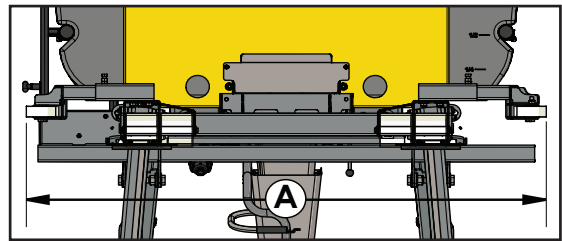

Figure 1 - Distance Between Front Rollers
2. Measure the distance between the two front rollers on the spreader as shown in Figure 1. Start from the outside edge of one roller and measure to the outside edge of the opposite roller.